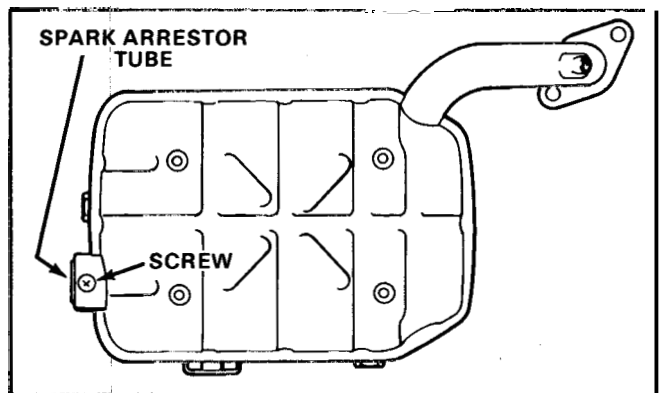

Figure 9
3. Remove the **two** spark arrester clean out bolts. See Figure 9.
4. Remove the single screw retaining the spark arrester tube in the end of the exhaust pipe and pull the tube out of the pipe. See Figure 9 above.